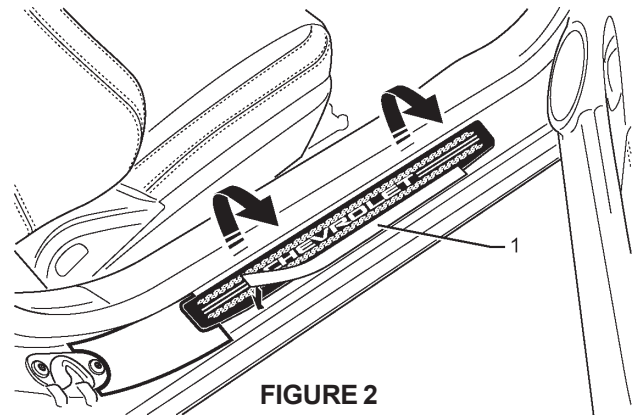

FIGURE 2
5. Tape (1) the sill decal in position along its length, flip the sill plate over and remove the backing tape. Refer to figure 2.